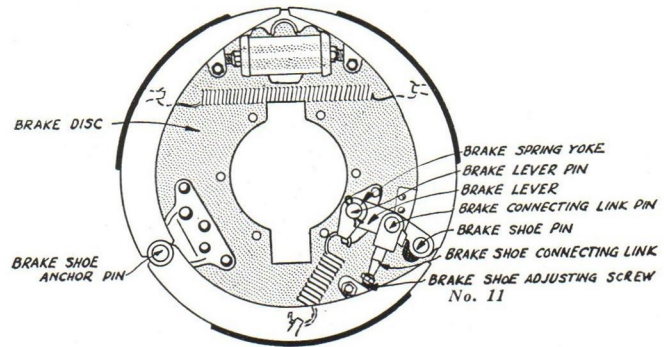

Fig. 2—Flint Lockheed three shoe assembly with early type brake lever installed
9. Check each wheel for eccentric drum by tightening adjusting screw, Fig. 2, until shoe drags, then turn wheel to see if free turning spot is found. Alternate free and tight spots during rotation show an eccentric drum.
10. Now **adjust** the secondary shoe at **adjusting screw** 11, Fig. 2, so that when the wheel is installed the clearance between secondary shoe and the drum is as close as can be gotten without having too much drag. Do the same to the **other three** wheels.